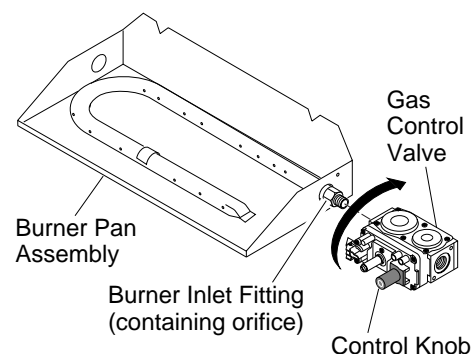

Figure 10 - Installing Gas Control Valve
4. Thread the gas control valve onto the burner inlet fitting (see Figure 10). Use thread sealant on the male threads of the burner inlet fitting. Hold the burner inlet fitting with a wrench to prevent overtightening the connection to the burner. Make sure the control knob is facing the front (see Figure 10).